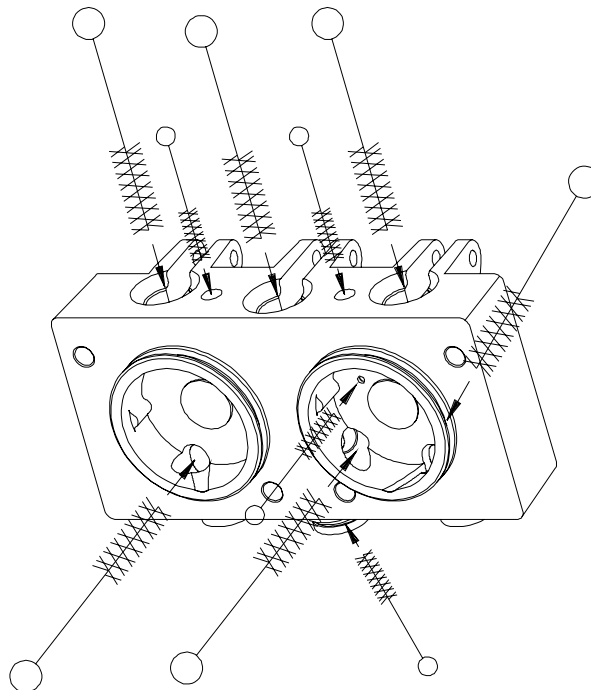

Figure 6-5 Clean head ports and openings with brush.
- b. The head plunger openings, center plunger ports, O-ring grooves, dispense nozzle mounting rings, and mix ports, as shown in figure 6-5.